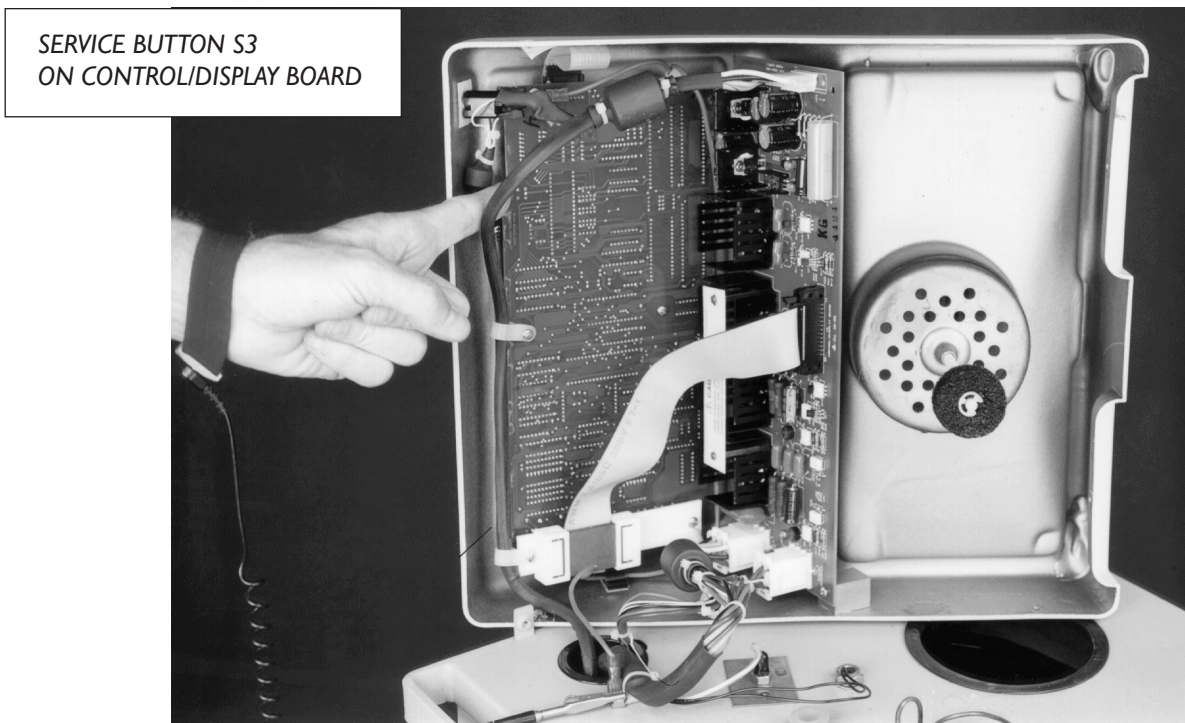

Figure 5—Initiating service mode I
Wear a static control device connected to the chassis ground to prevent electrostatic discharge. (See figure 5, p. 35.)
3. Lift the head, press and hold service button S3 on the low voltage control/display board (figure 5), then turn the machine on.
To access	Press and hold S3 (see figure 5, p. 35) on the control/display board, then turn machine on.